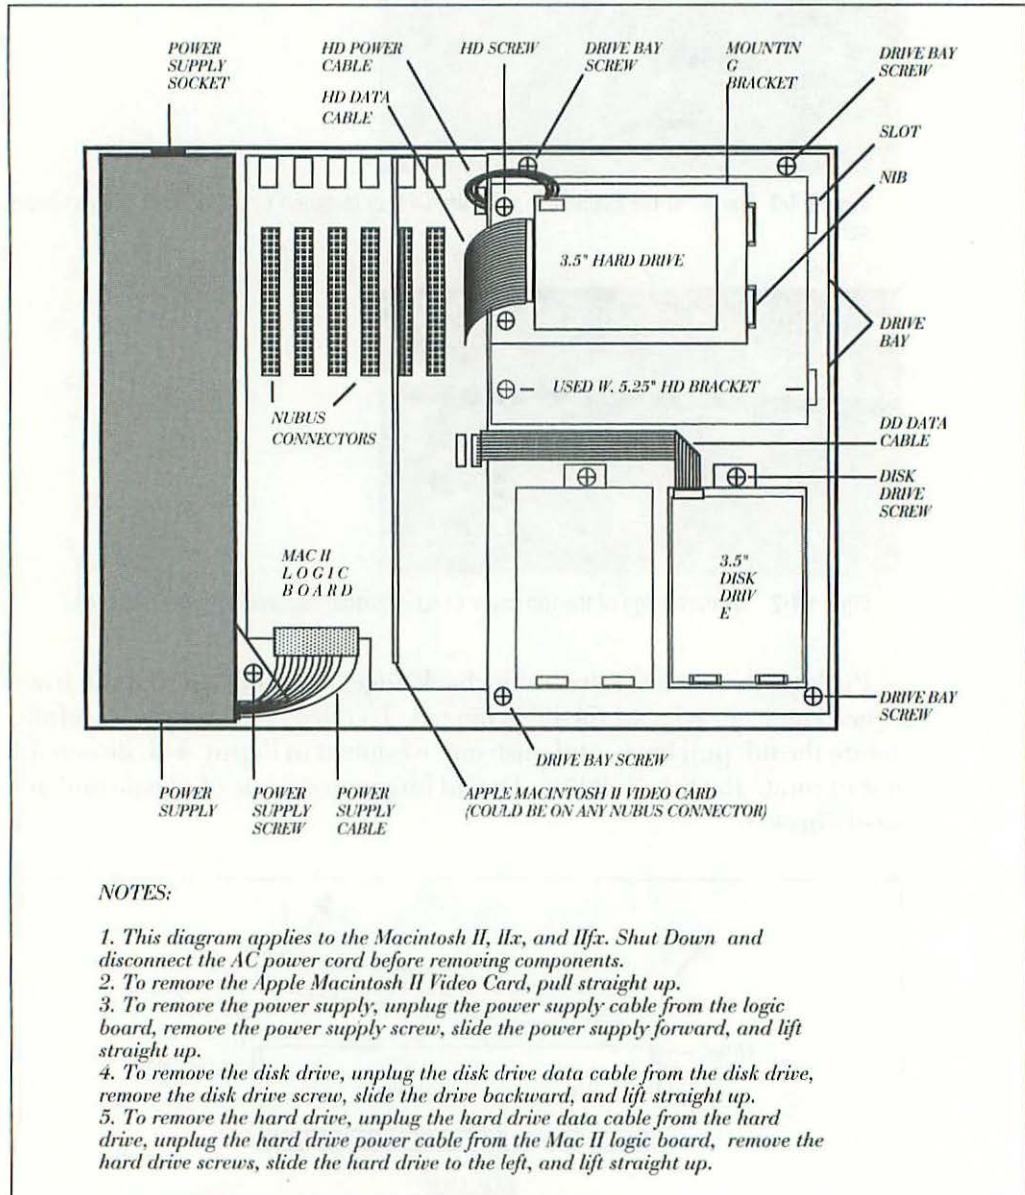

Figure 4-4 Inside the Macintosh II/IIx/IIfx.
When the hinges are fully separated, the top cover can be lifted away. Figure 4-4 identifies the various subassemblies inside the Macintosh II/IIx/IIfx.
4. Identify the power supply screw and power supply cable shown in Figure 4-4. If the currently installed video card (or any other Nu-Bus card) overlaps this area, the card will have to be removed:
3. Unplug the drive cables. As indicated in Figure 4-4, unplug the disk drive data cable(s) from the logic board. Unplug the hard drive data and power cables from the hard drive.
4. Remove the drive bay. As indicated in Figure 4-4, unscrew four Phillips-head screws and lift straight up.